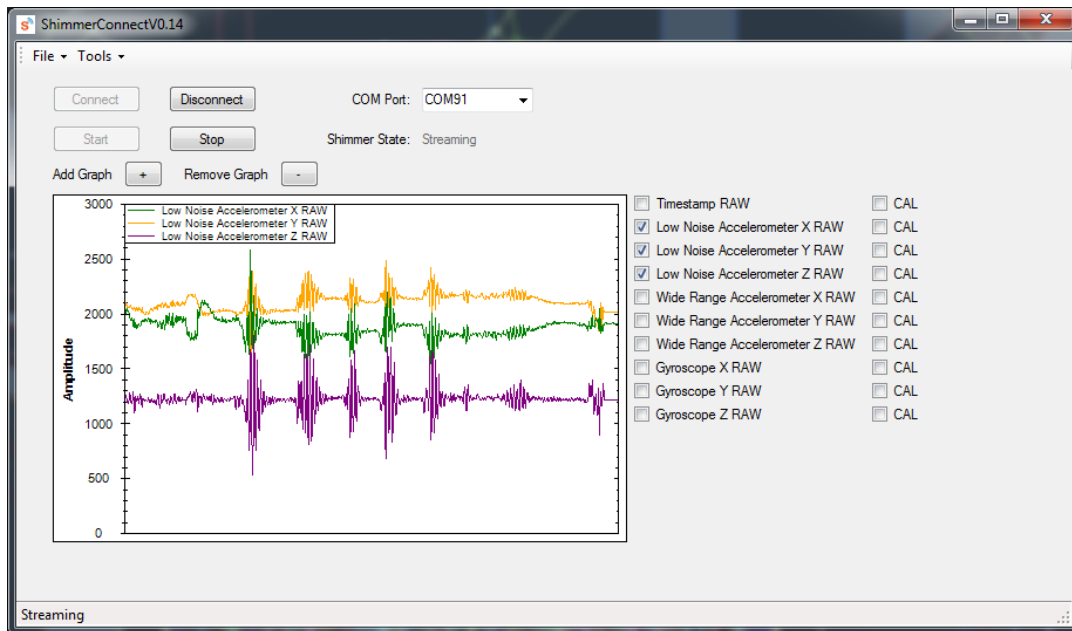

Figure 4-2 ShimmerCapture Software Application
*ShimmerCapture* (see Figure 4-2) allows users to display and save data received from Shimmer devices streaming over Bluetooth. Currently, *ShimmerCapture* is only supported on the Linux platform.